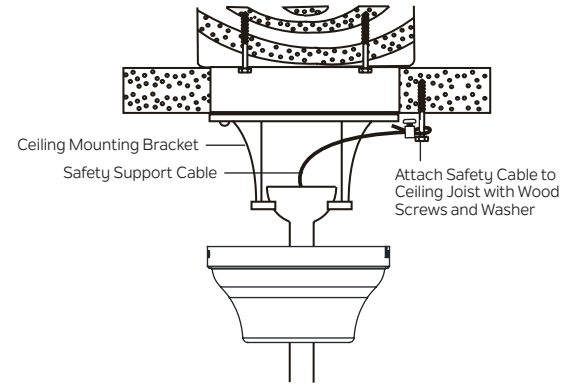

Fig. 12
Step 1. Attach the provided wood screw and washer to the ceiling joist next to the mounting bracket but do not tighten. **(Fig. 12)**